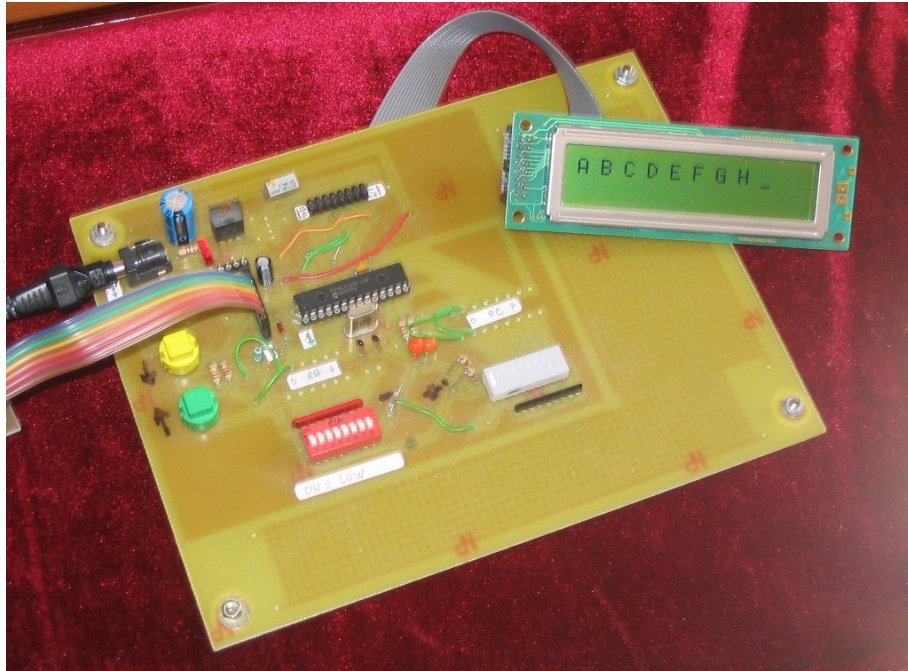

Figure 1: Result of the very first program compiled by `cpik` ever executed
- Any source library is a simple text file, so it can be manually written in assembly language, using a standard text editor (this point is important to bootstrap a totally new development environment). For example, the LCD library has been developed from scratch with a text editor as unique tool, and has been used to support the very first program³ compiled with `cpik` ever executed (see figure 1).